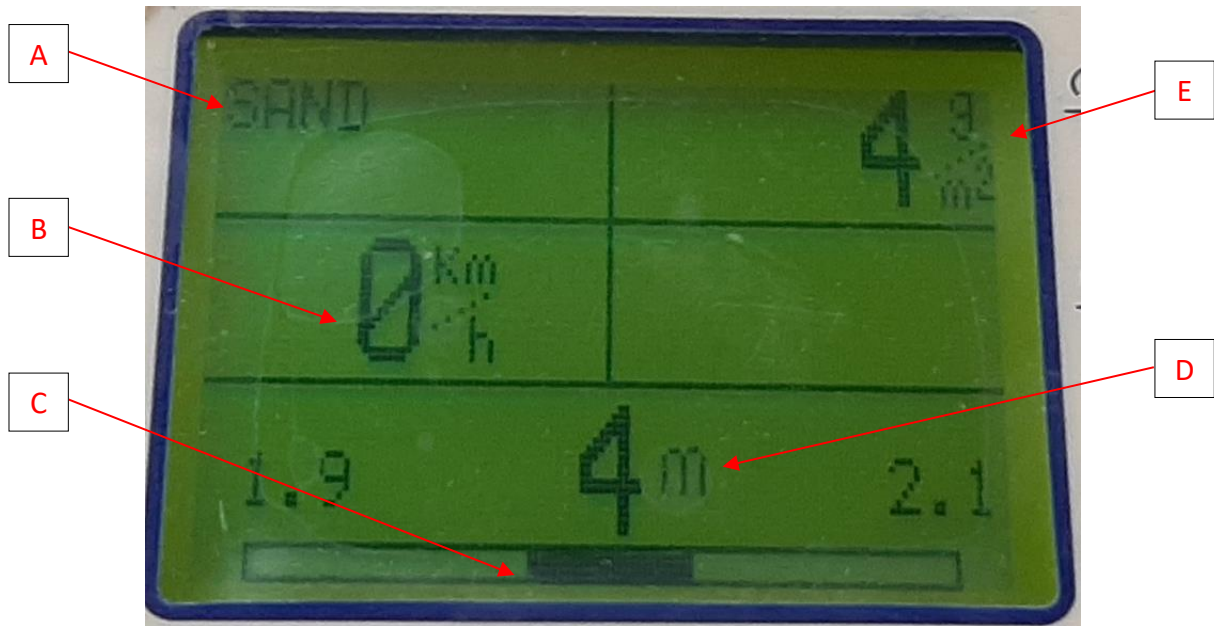

Figure 3. Working mode. (VÕIMALUSEL SIIA UUS PILT)
When one of the automated modes „SAND/SALT“ is selected, the display is as shown on Figure 3.
- Speed automatically detected by GPS: dark text on a light background (as shown on Figure 3).
- Manual speed mode: light text on dark background (opposite to Figure 3).